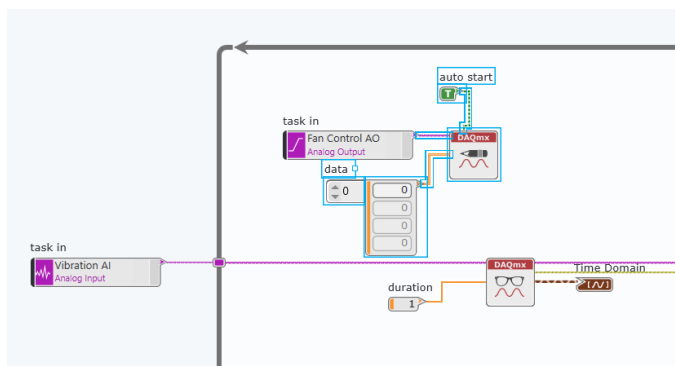

Figure 7-16 Dragging a pre-configured task onto the block diagram provides all the code necessary to perform that task's operation.
3. Repeat the drag-and-drop process from Part A for **Fan Control AO.task**. Place is as shown in Figure 7-16.